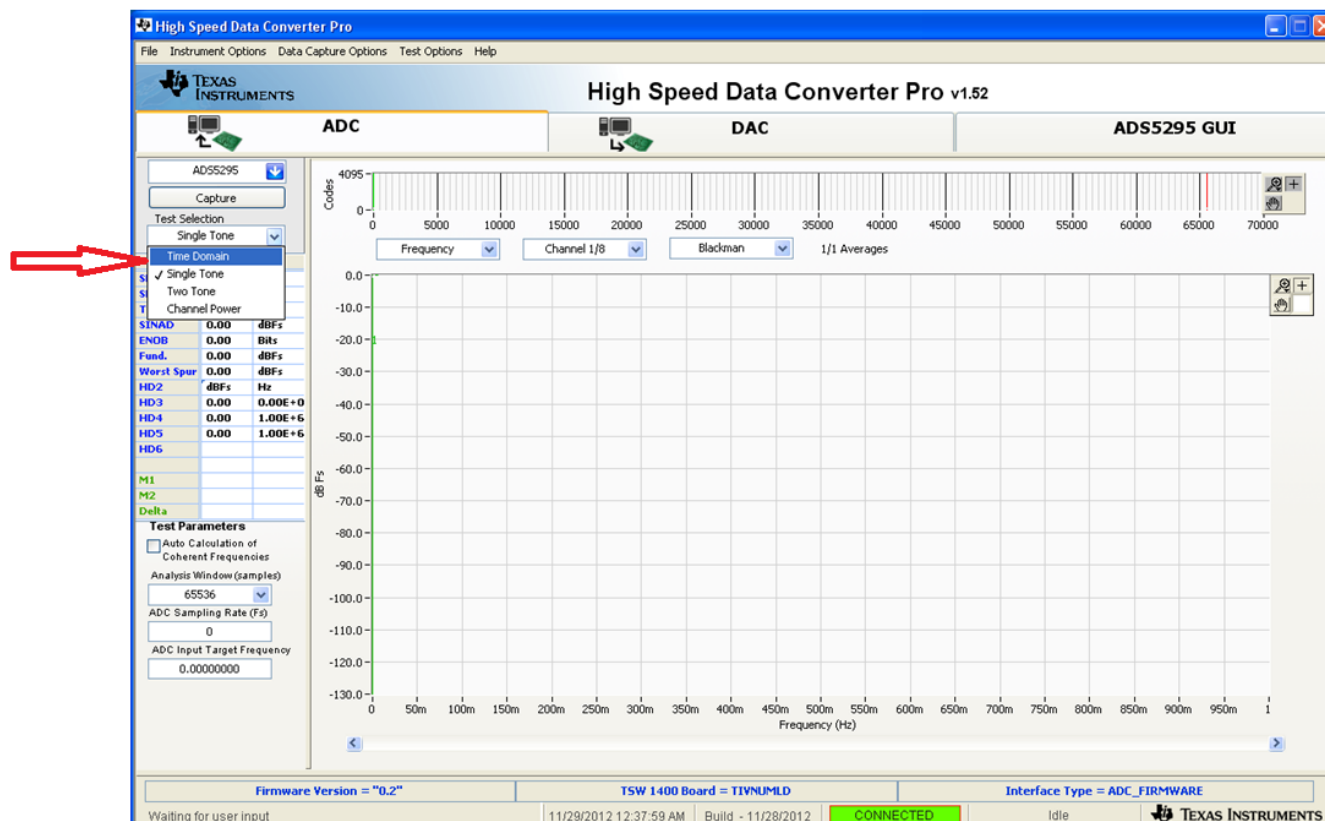

Figure 10. Time Domain Test
- On the **ADC** tab of the *High Speed Data Converter Pro* GUI, select **Time Domain** from the **Test Selection** drop down menu as shown in Figure 10.